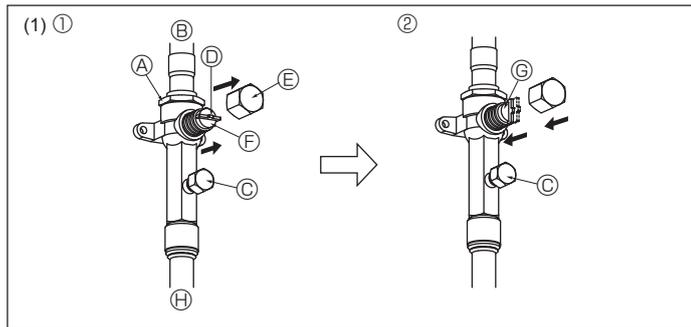
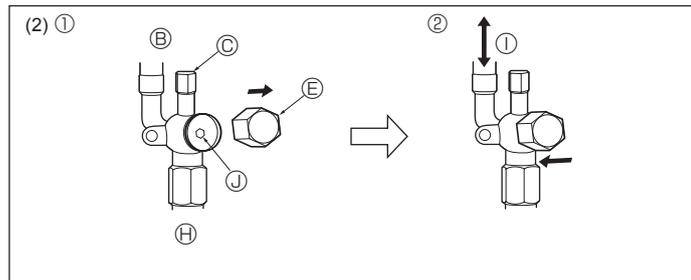

Fig. 4-10
Fig. 4-11
- (1) Gas side (Fig. 4-10)
- ① Remove the cap, pull the handle toward you and rotate 1/4 turn in a counterclockwise direction to open.
- ② Make sure that the stop valve is open completely, push in the handle and rotate the cap back to its original position.
- (2) Liquid side (Fig. 4-11)
- ① Remove the cap and turn the valve rod counterclockwise as far as it will go with the use of a 4 mm hexagonal wrench. Stop turning when it hits the stopper. (ø6.35: Approximately 4.5 revolutions) (ø9.52: Approximately 10 revolutions)